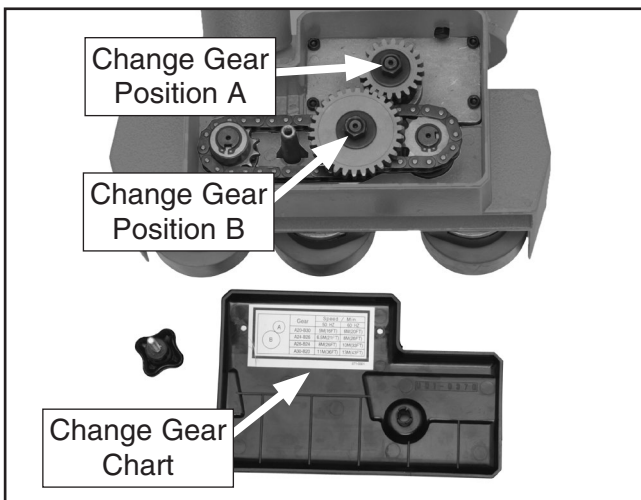

Figure 12. Change gear locations.
3. Refer to the change gear chart on the inside of the chain cover (see **Figure 12**) or the table (see **Figure 13**) to find the gear combination required for your chosen feed rate.
5. Swap the required gears in positions **A** & **B** shown in **Figure 12**.